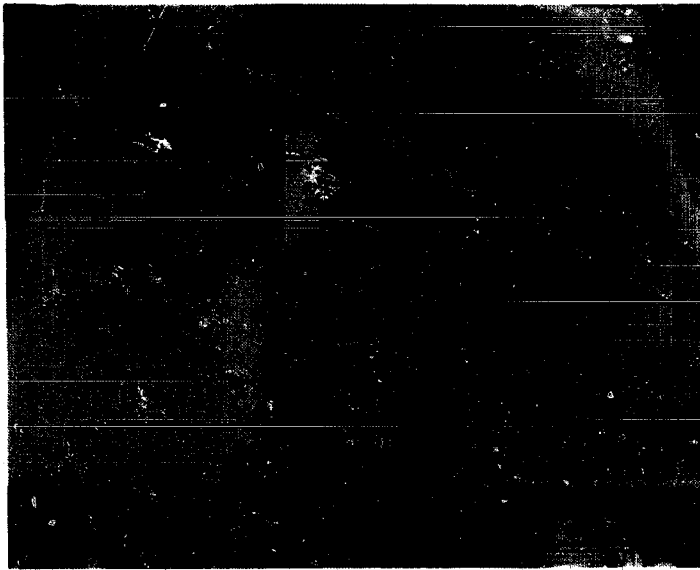

FIGURE 9
10. With the manual operator handles positioned toward the linear actuators, position the actuator rods midway between the inside edges of the handles. Refer to Figure 9. The proper position of the rod is important to prevent binding. Tighten the mounting bolts to a nominal 70 in. lb. (7.9 N•m).